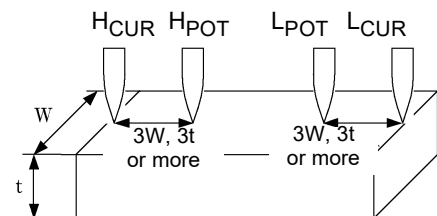

Figure 8. Probe Positions on Wider/Thicker DUT
It is known that such effects can be minimized by detecting the voltage within the space between the current contact points. Generally, if the distance between the voltage detection points and their corresponding current application points (CUR, POT terminals) is greater than the width (W) or thickness (t) of the DUT, current distribution may be considered uniform. As shown in Fig. 8, POT leads should be 3W or 3t mm or more inside from the CUR leads.
(4) Unstable Temperature of the DUT